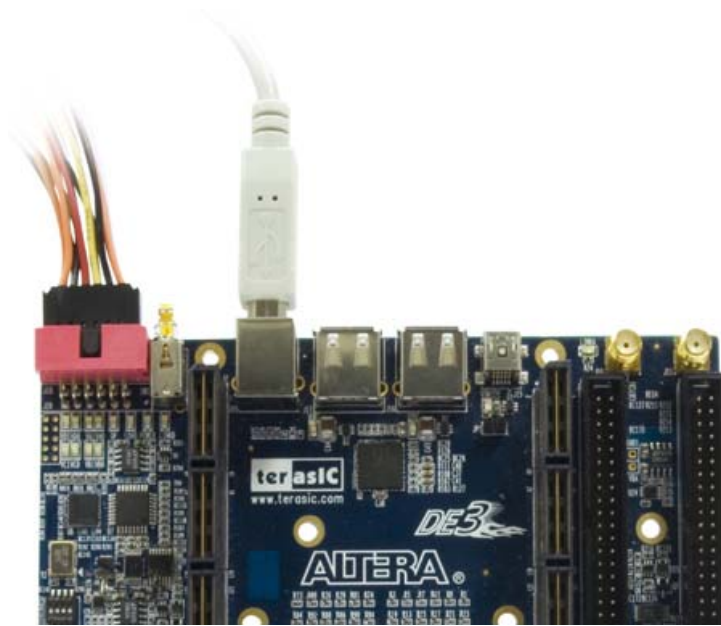

Figure 3.1. Setup of USB-Blaster cable and power cord
2. Connect the supplied USB cable to the USB Blaster port and the supplied power cord to J18. Turn the power switch ON as shown in Figure 3.1.